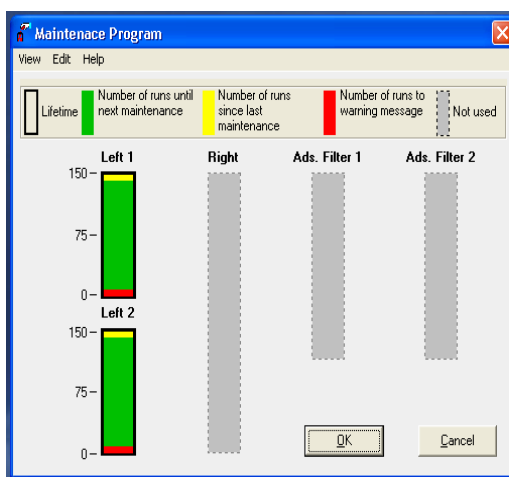

Figure 11. Maintenance Program Screen
If a reactor is changed, the maintenance program must be reset. The maintenance program shown in Figure 11 gives an indication of reactor life. Reactor deterioration can also be detected on chromatograms.
1. Select **View > View Maintenance**. The *Maintenance Program* screen shows the reactor status (Figure 11). To reset the maintenance program, select **Edit > Reset Maintenance Program**.